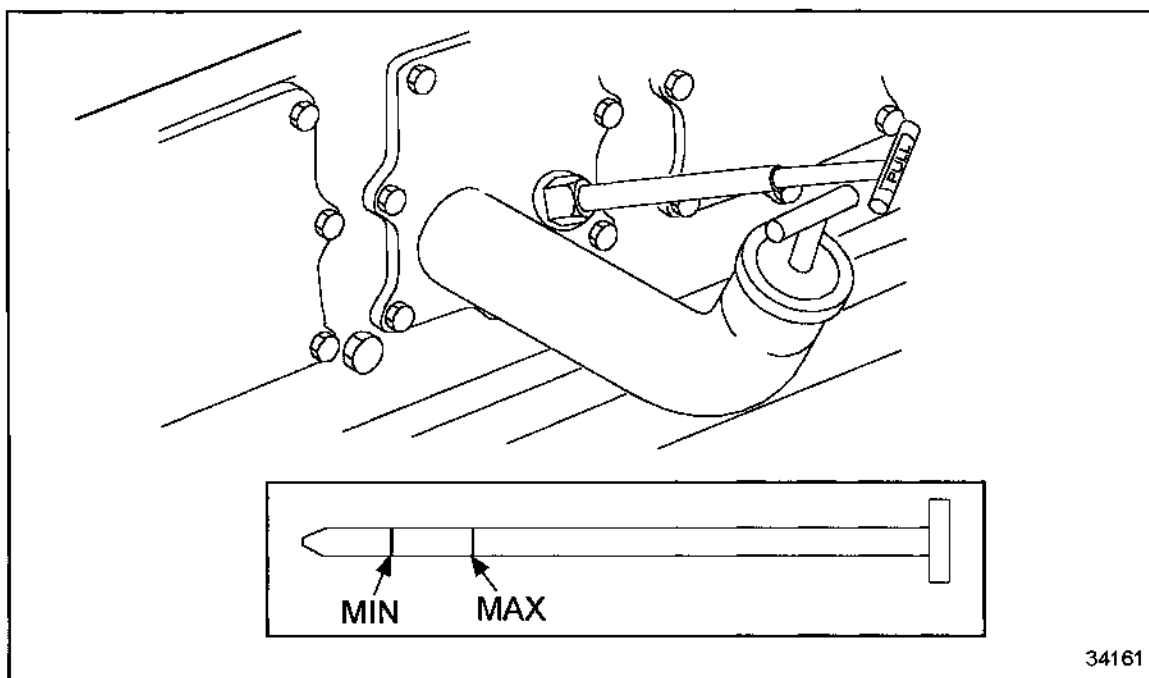

Figure 15 Oil Level Check
3. Engine oil must be between minimum and maximum marks. See Figure 15.